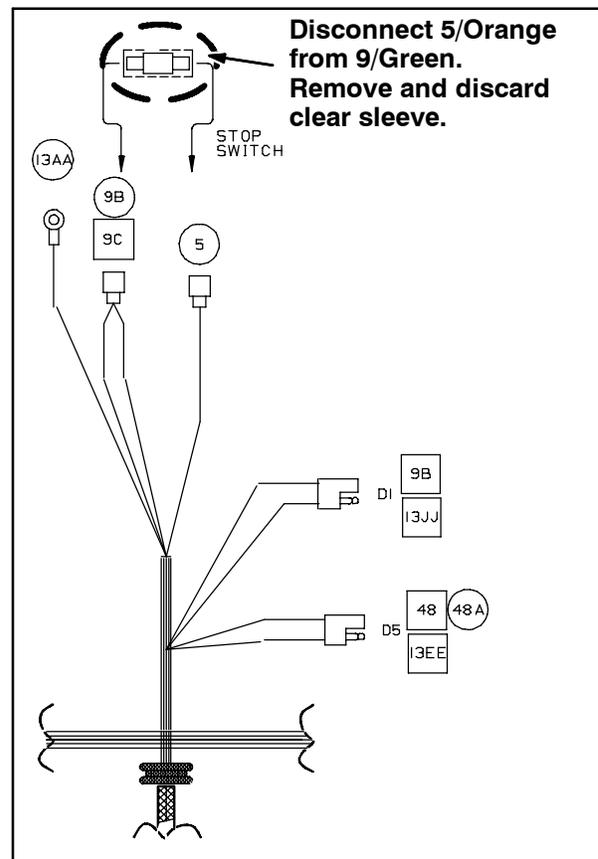

FIG. 5
- Non-CE machines only:** Disconnect wire 5/Orange of the main wire harness from wire 9/Green of the main wire harness. Remove and discard the clear sleeve covering these connectors. Refer to Fig. 5.